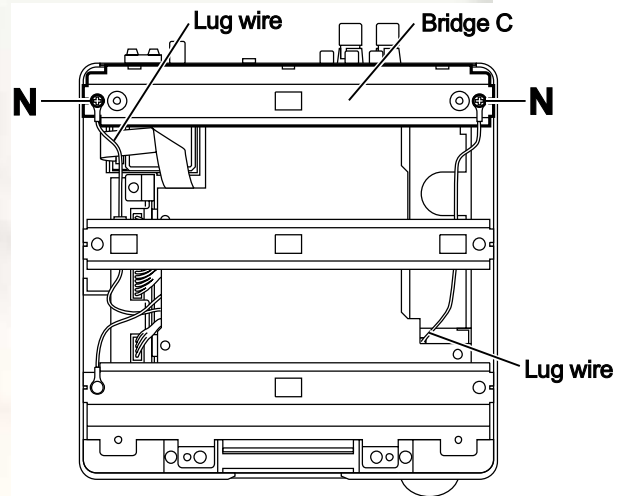

Fig.11
3.1.6 Removing the tuner (See Figs.11 and 12)
- (1) From the top side of the main body, remove the two screws **N** attaching the bridge C. (See Fig.11.)
When attaching the screws **N**, attach the lug wires with them. (See Fig.11.)